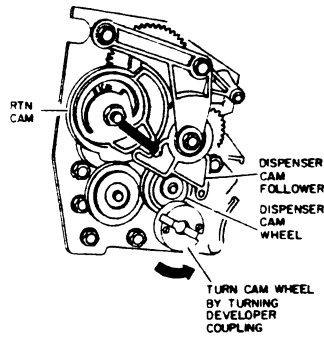

Figure 1. Positioning the Dispenser Cam Wheel
- WITH THE DRY IMAGER CONTROL KNOB IN NORMAL POSITION, TURN DISPENSER CAM WHEEL UNTIL DISPENSER CAM FOLLOWER IS ONLY TOUCHING THE RTN CAM (FIGURE 1).